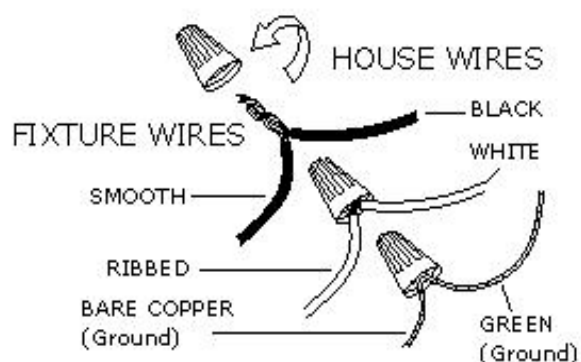

Fig. 3
### FINISHING THE INSTALLATION(Fig.3)
9. After tucking these wire connections neatly into the Junction Box and place the fixture Back Plate(D) over the two Mounting Screws(C) and secure the Back Plate(D) against the wall by threading two Deco Nuts(E) over the two Mounting Screws(C) until tight as shown on Fig.3.